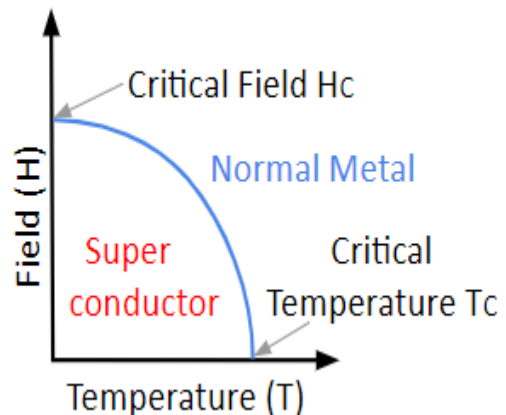

Figure 2: T_c and H_c for Superconductor
Naturally, H_c value depends on the temperature of the superconductor which is placed in an external magnetic field as shown in Figure 2 and hence it is a function of 'T'. At any temperature 'T' less than T_c , the superconducting material when placed in an external magnetic field, remains superconductor below H_c (T) and becomes normal above the H_c (T). The maximum value of critical field